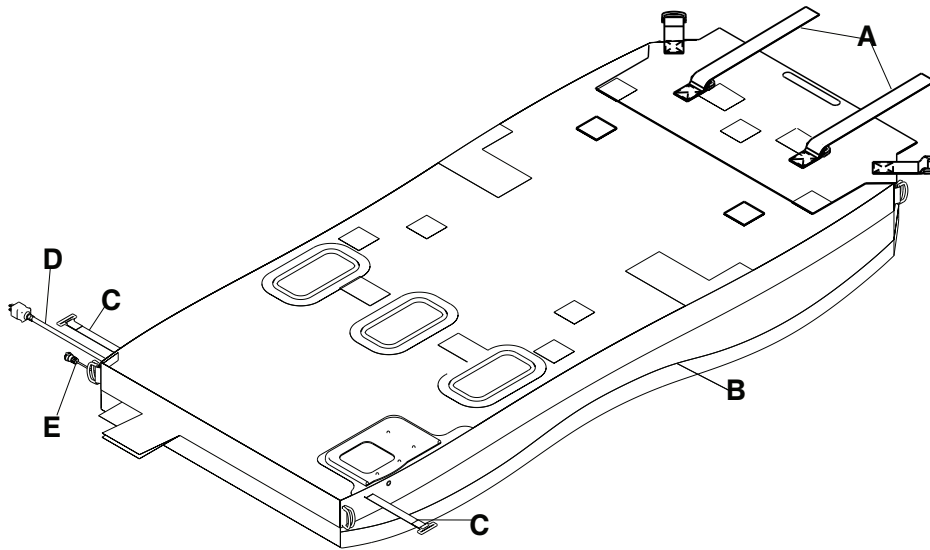

Figure 3 – Bottom support surface cover
2. Unplug the support surface power cord (D) (Figure 3) from the wall outlet.
3. Disconnect the support surface integration cable (E) from the bed.
8. Loosen and remove the retainer straps (A) that secure the support surface to the backrest.
10. Using two operators, turn the support surface over (Figure 3).